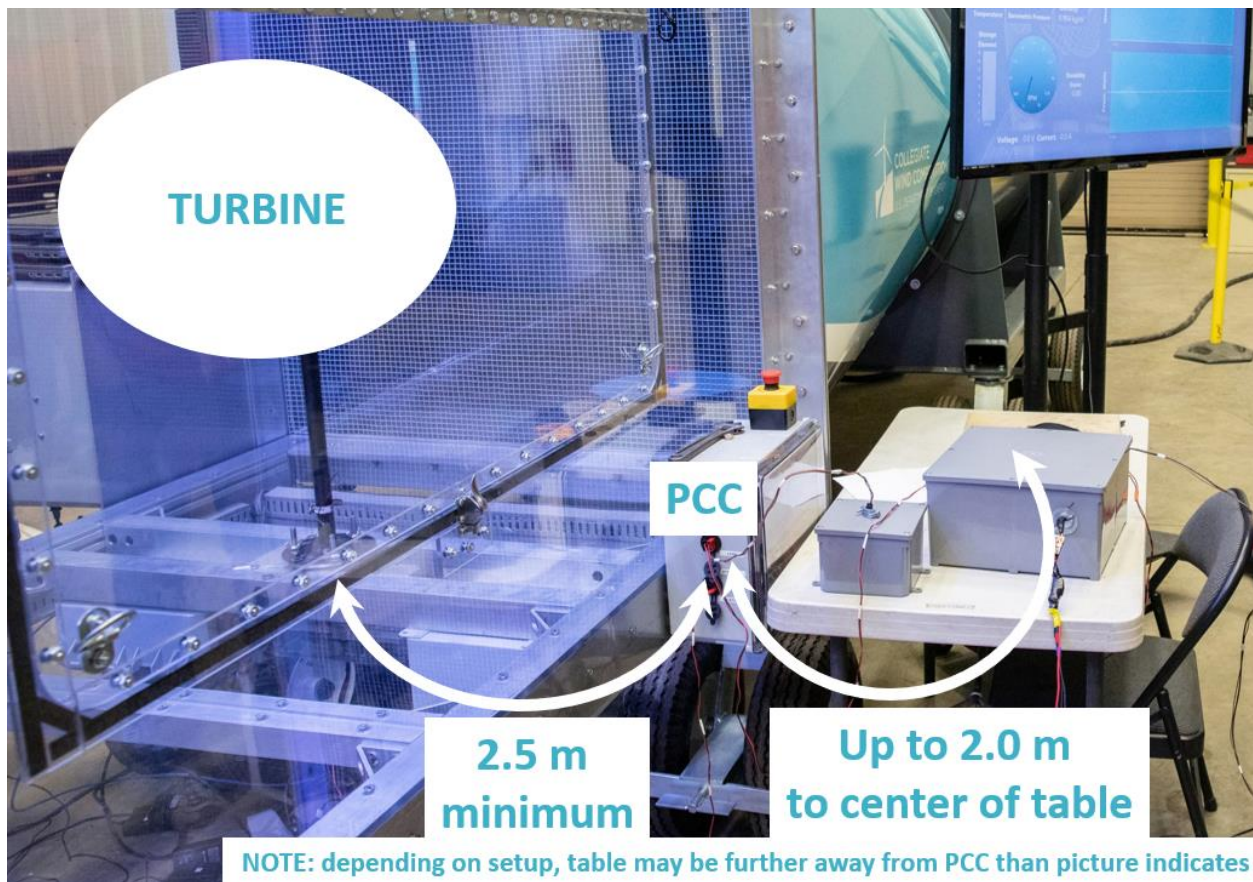

Figure 12. Wiring layout of point of common coupling and student load display table
- Wires should exit the tunnel at the turbine base through the center of the stub. As shown in Figure 12, a table will be provided to display the load on the side of the tunnel and hold any turbine electronics enclosures external to the tunnel. Rough distances are shown in the figure, but teams should provide adequate lengths of wire to run from the PCC to accommodate their desired enclosure arrangement on the table.
- o Each team must provide a cable containing two wires (no smaller than 28 American wire gauge) that reaches the PCC, as labeled in Figure 12. This cable must be terminated, prior to the competition, with a standard JST RCY female